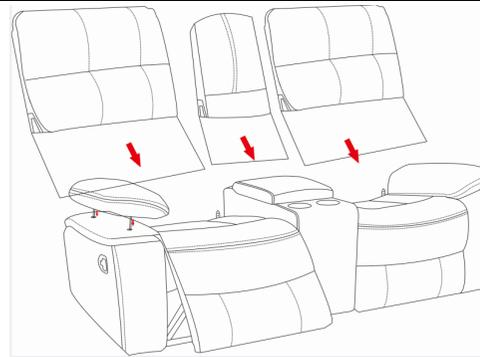

fig.3
- 3.Engage the Metal Locks and push fit. You should hear them lock into position See fig. 3
- 4.Paste the velcro on the flag of the Back Cushions onto the back of Seat Cushions. See fig. 3
- 5.Insert the armrest pieces into the armrest ,See fig. 3